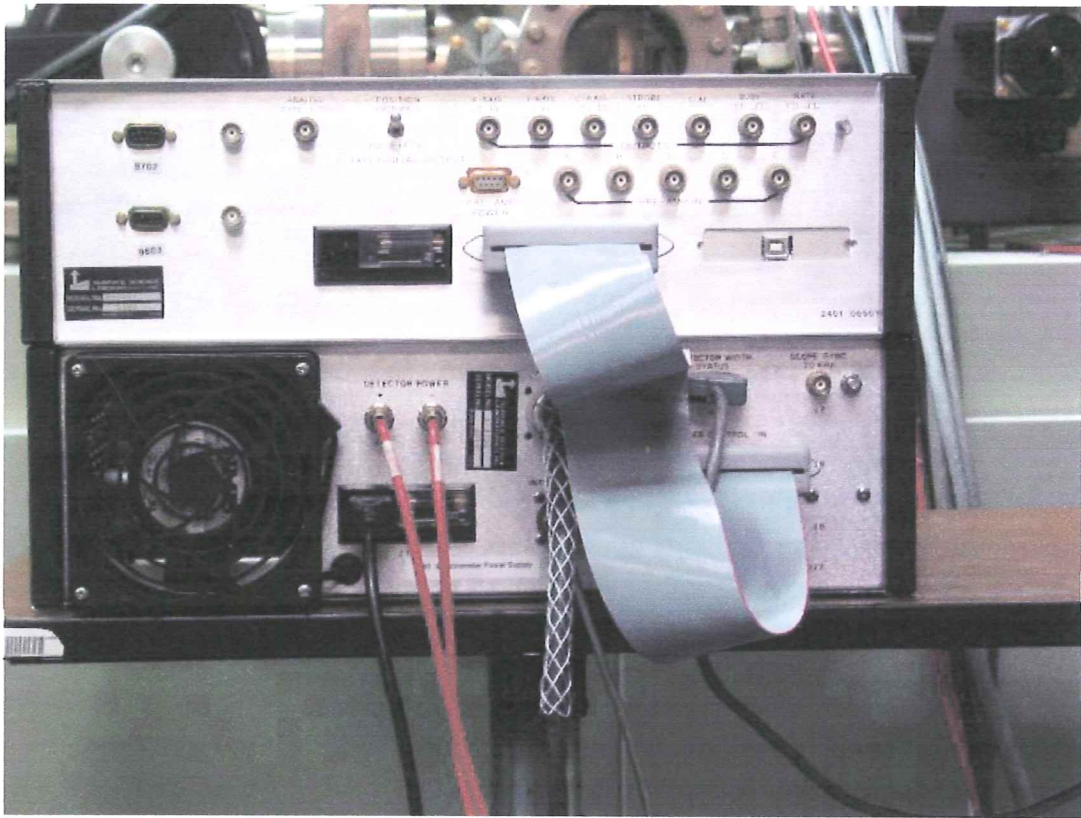

Figure 3 Ribbon Cable from USB Adaptor to 8701/8724 Spectrometer Power Supply.
3. Connect the Ribbon cable between the 8724/8701 Spectrometer Power Supply and the 2503/2401 Box that contains the USB Adaptor. See Figure 3.